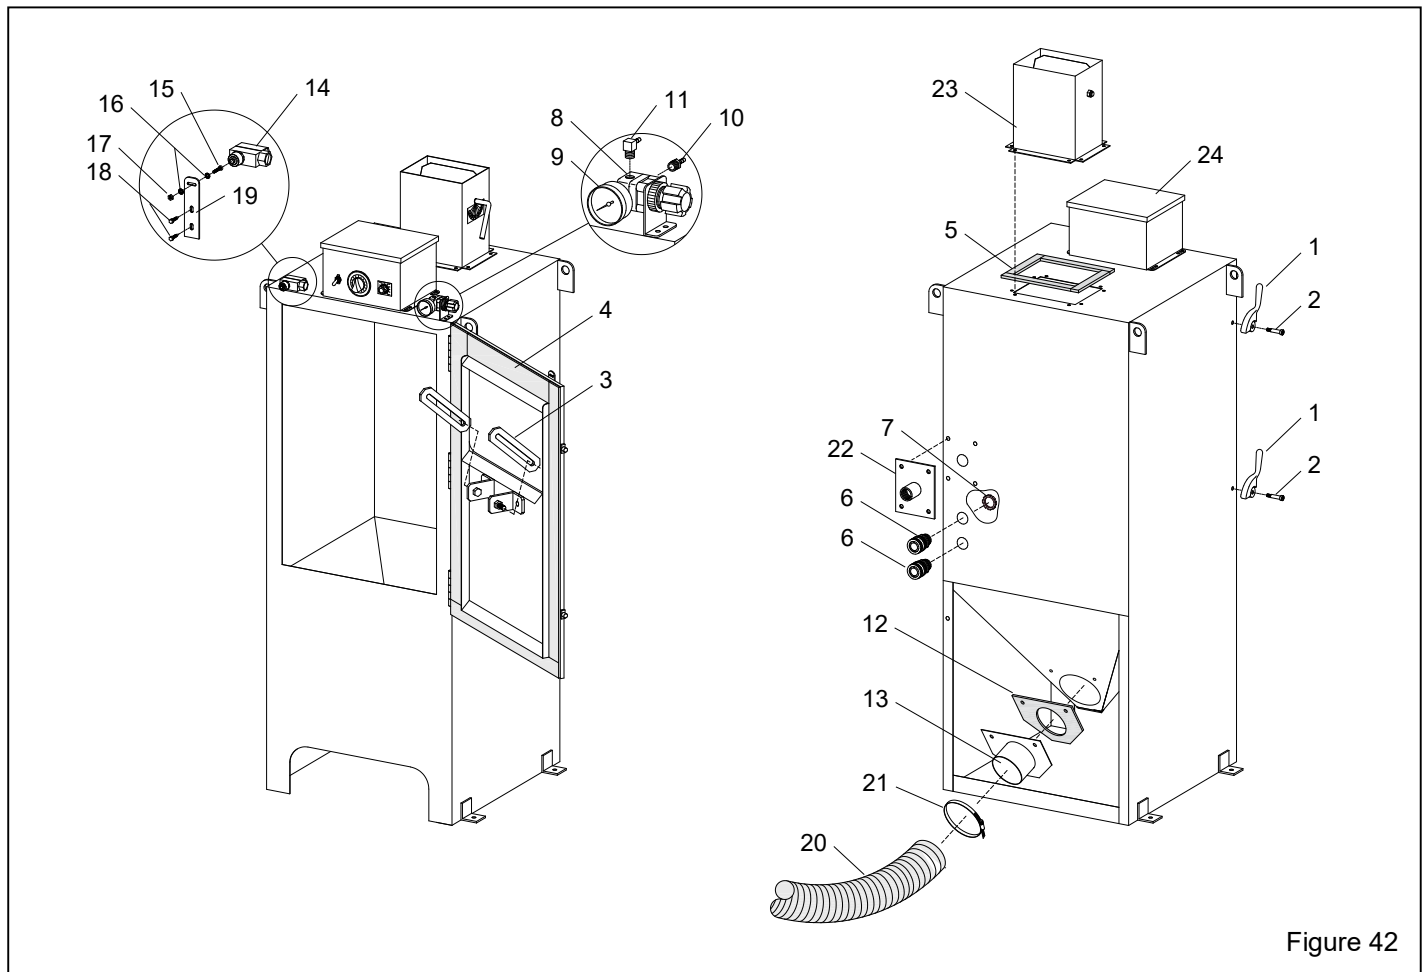

Figure 42
9.2 Cabinet Enclosure – Figure 42